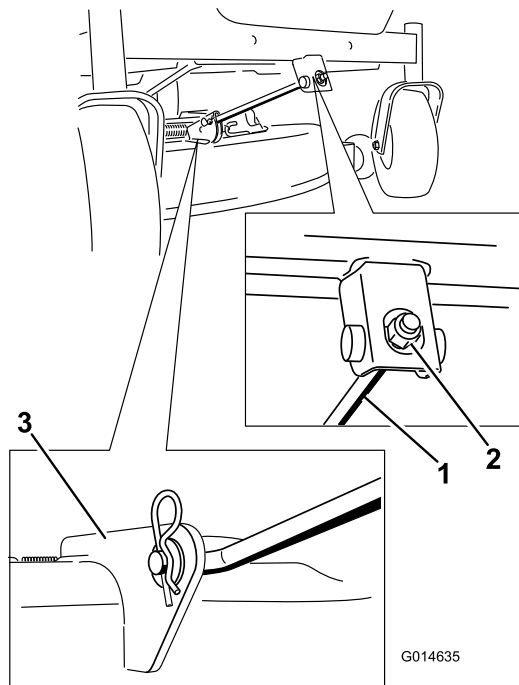
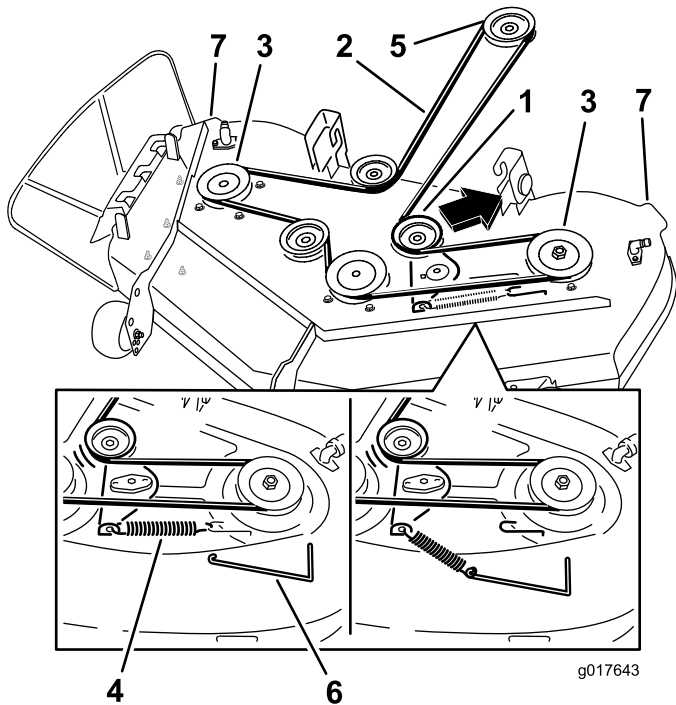

**Figure 58**
Figure 59
5. Using the mower deck handles, lift the mower deck and hanger brackets clear of the rear lift rod and lower the mower carefully to the ground (Figure 58 and Figure 59).
hook to remove tension on the idler pulley and roll the belt off of the pulleys (Figure 59).
5. Route the new belt around the engine pulley and mower pulleys (Figure 59).
6. Using a spring removal tool, (Toro part no. 92-5771), install the idler spring over the deck hook and placing tension on the idler pulley and mower belt (Figure 59).
5. Lift the rear of the mower deck and guide the hanger brackets over the rear lift rod (Figure 58).